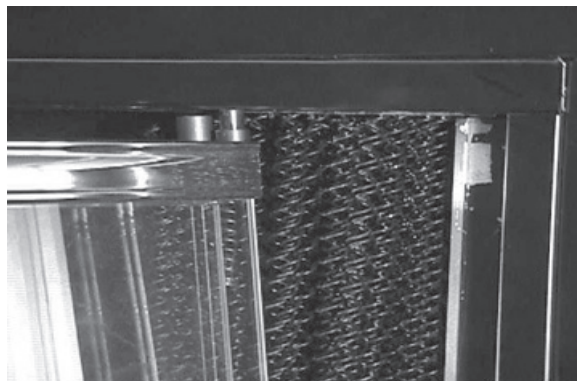

Figure 7 - Pivot Pins/Top Door Track
- Slide the top pins on the door into the top door track. Slide the door over until the pivot pin snaps into the spring clip. See Figure 7.